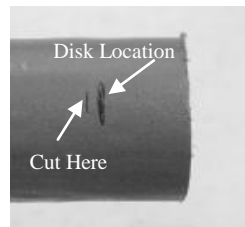

Figure 1
- 1) **Locate the 1st disc by inserting small ruler or wire.** Mark location on jacket surface. **Cut cable .125" behind disc using hacksaw (Figure 1).** Ensure that cable is straight for at least 10" from the end. (Tools required: Small Ruler or Wire and Hacksaw)